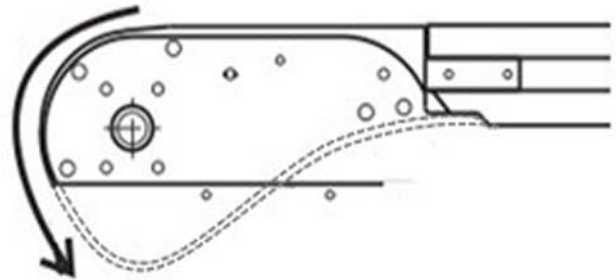

Figure 104
- The conveyor chain must show some slack during operation (See **Figure 104**).